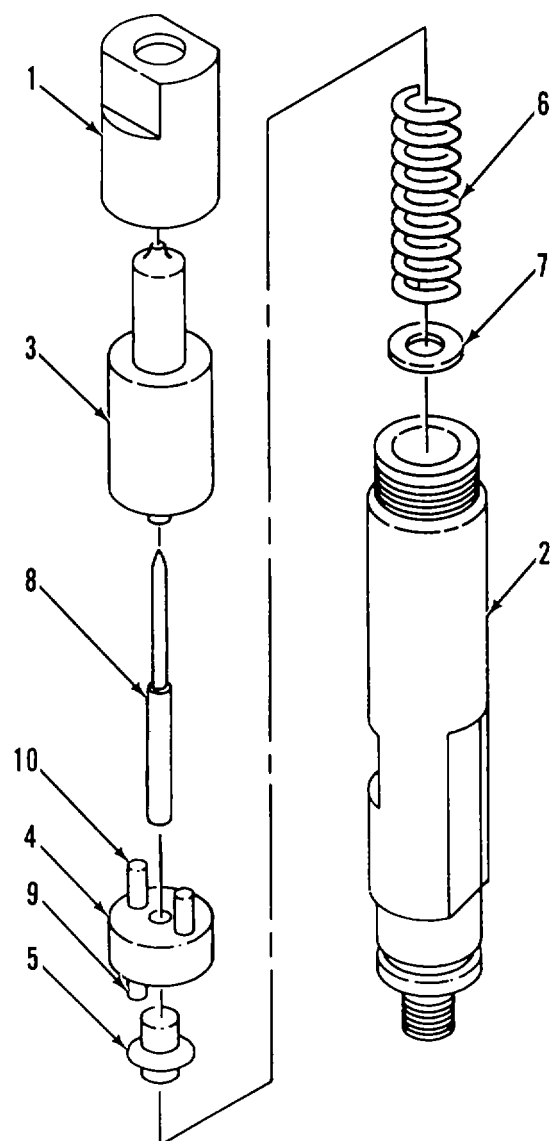

Figure 4-1. Fuel Injector
- a. DISASSEMBLE. (Figure 4-1)
- (1) Remove injection cap (1) from nozzle holder (2).
- (2) Remove nozzle assembly (3), intermediate piece (4), plunger (5), spring (6), and shims (7).
- (13) If clearance exceeds 0.0024-0.0037 in. (0.06-0.095 mm) for exhaust and 0.0016-0.0028 in. (0.04-0.07 mm) for Intake, replace valve guide.
- (14) Heat cylinder head to 428°F (220°C); drive out valve guide.
- (15) Install new snap spring (6, Figure 4-1) on new valve guide (7).
- (16) Insert long end of valve guide (7) into valve guide bore from top of cylinder head (8).
- (17) Drive in valve guide (7) until snap spring (6) seats.